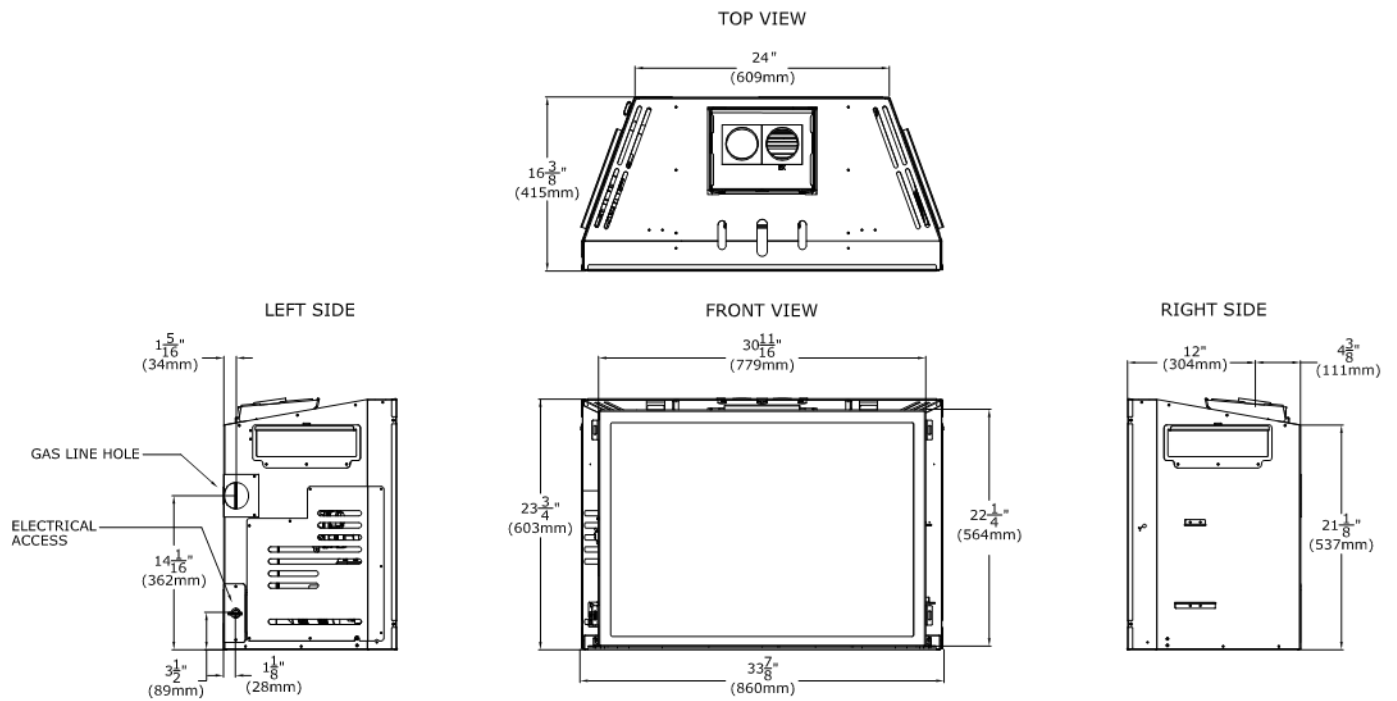

Figure 2.1 - Appliance dimensions
- A gas line must be able to be installed to the fireplace insert. Please refer to Figure 2.1. The gas line access hole is located on the left side of the insert.
- See Figure 2.1 for electrical outlet box location to run any necessary electrical wiring to the gas fireplace insert.